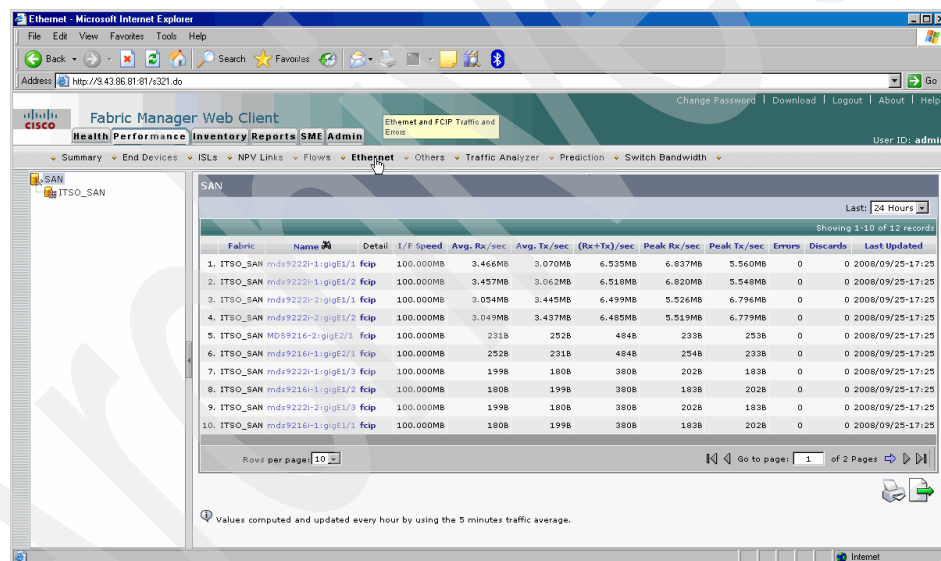

Figure 4-48 Performance report for FCIP and iSCSI connections
- ▶ Ethernet (FCIP and iSCSI) (Figure 4-48 on page 124)